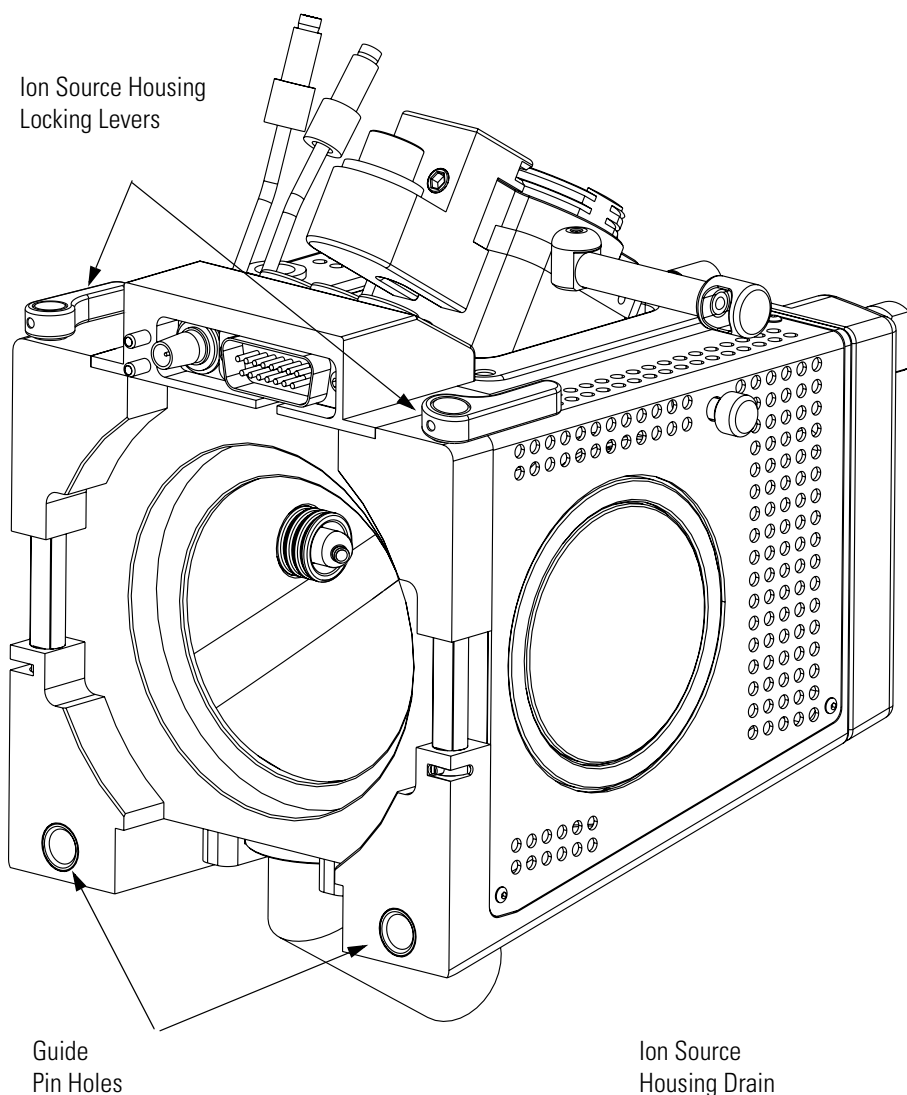
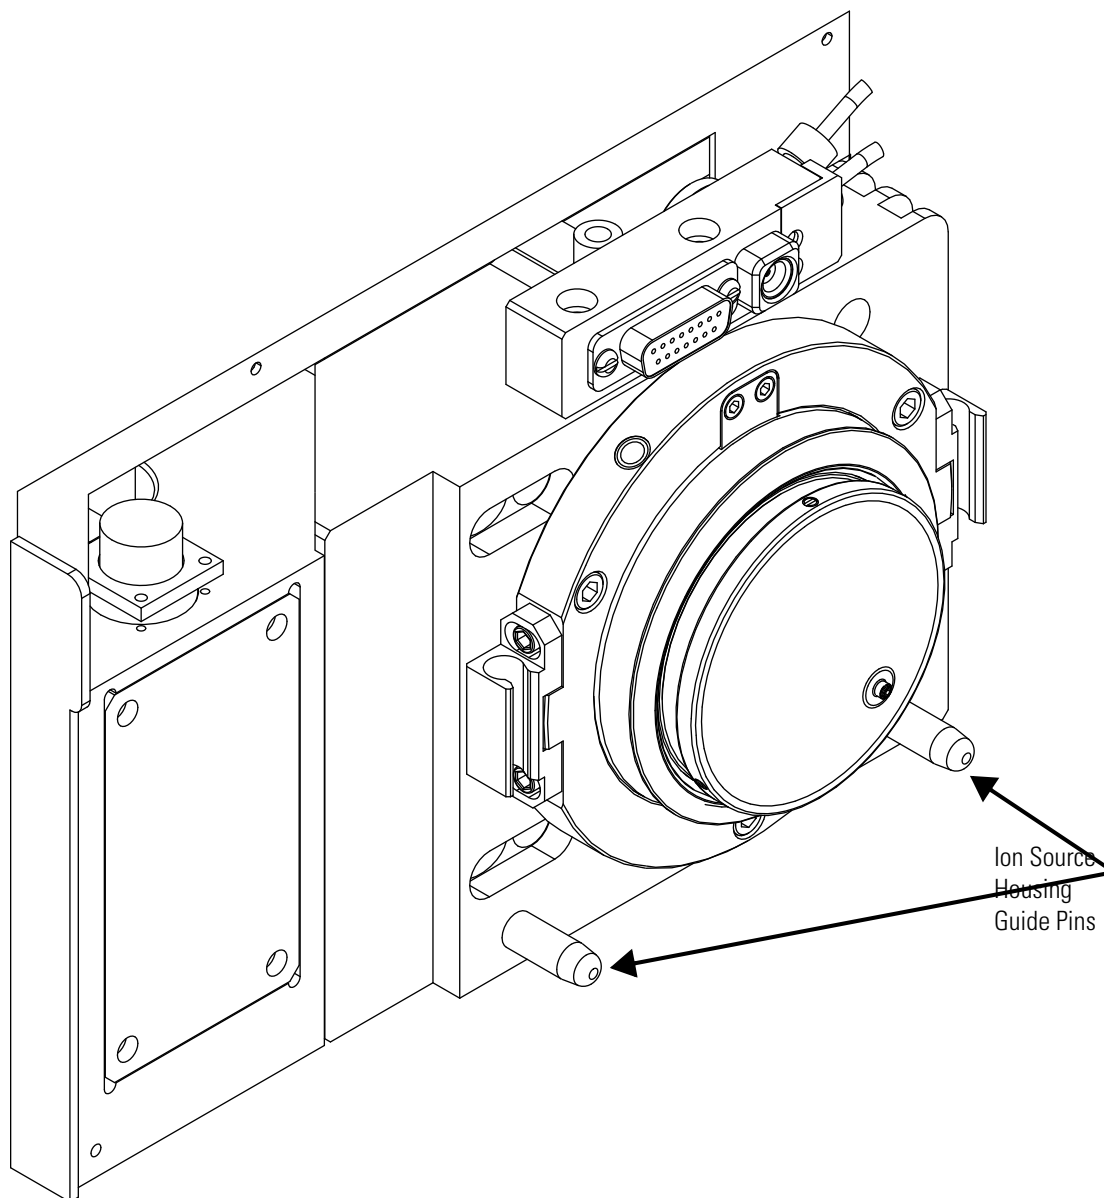

Figure 18. Rear view of the Ion Max ion source housing (PhotoMate light source not shown)
Figure 19. Ion source mount showing ion source housing guide pins
1. Carefully align the two guide pin holes on the rear of the ion source housing with the ion source housing guide pins on the mass spectrometer, and carefully press the ion source housing onto the ion source mount. See Figure 18 and Figure 19.